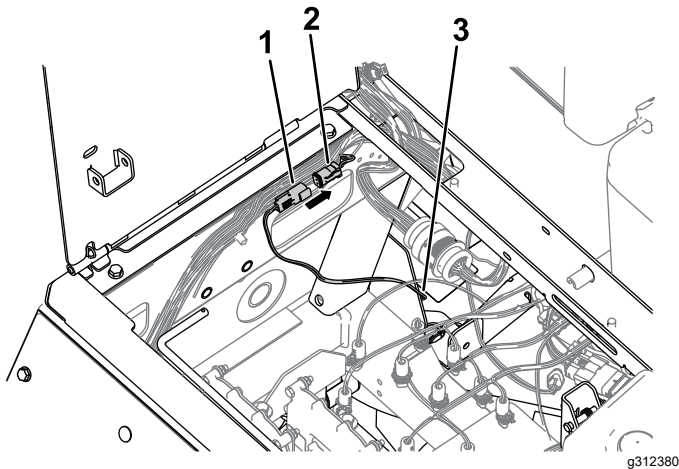

Figure 25
2. Connect the free connector on the solenoid wire harness to the machine wire harness connector beneath the seat (Figure 25).